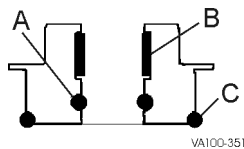

Figure 9 - Adapter O-rings and Bearing
2. Remove and replace the o-ring (Figure 9, item A) inside the adapter.
3. Check the split bearing (Figure 9, item B) inside the adapter by feeling the amount protruding from the adapter wall. If the bearing is flush with the wall, replace the bearing.
2. Slide or cut the outer o-ring (Figure 9, item C) off the adapter. Do not nick or scratch the o-ring groove.